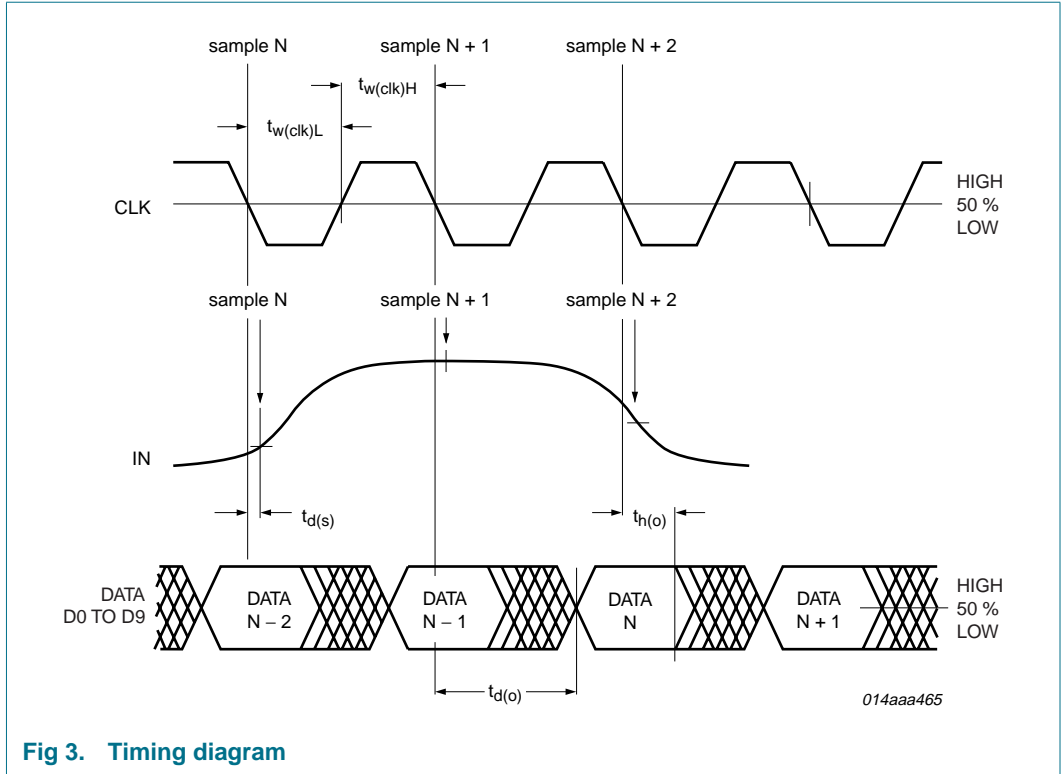

Fig 3. Timing diagram
- [9] Output data acquisition: the output data is available after the maximum delay of $t_{d(o)}$; see Figure 3.